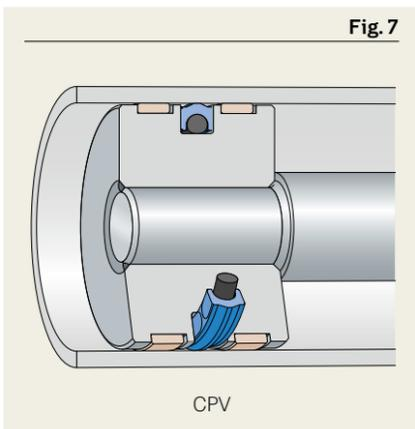

Fig. 7
CPV profiles (→ **fig. 7**) have a polyether-based polyurethane (AU) slide ring. These profiles are developed for pressures up to 345 bar (5 000 psi) and suitable for light to medium duty applications. They are available in inch sizes where O-ring dash-number housings are used.